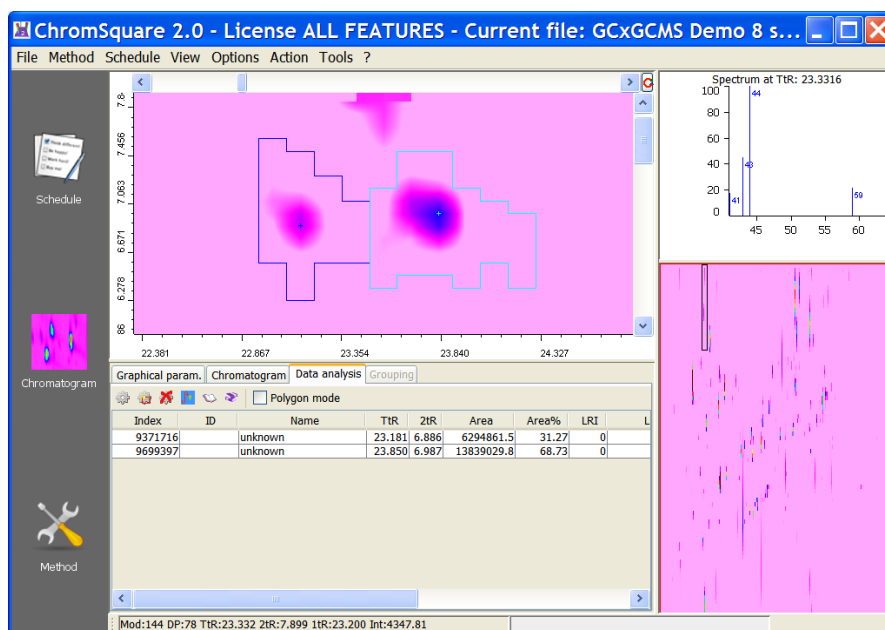

Figure 12.2: Integrate the current ROI
1. From the Action Menu, select "Integrate ROI" (you may also use the corresponding icon in the lower panel: switch to the Data Analysis tab and then click on the second icon). The results of the integration will be shown as straight lines contours which bound the two main blobs. See Figure 12.2. The Blobs are also reported in the Data Analysis table; in both cases, the Blobs are marked as "unknown", since identification has not yet been performed.